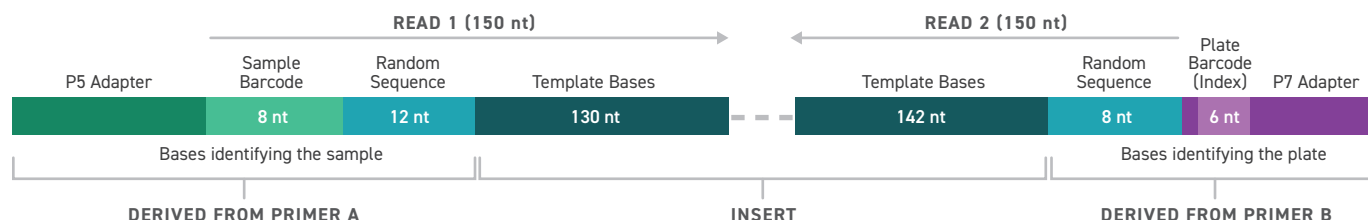

Figure 2. Final library structure.
- The read structure parameter defines the 96-Plex-specific read structure, as follows (see figure 2):